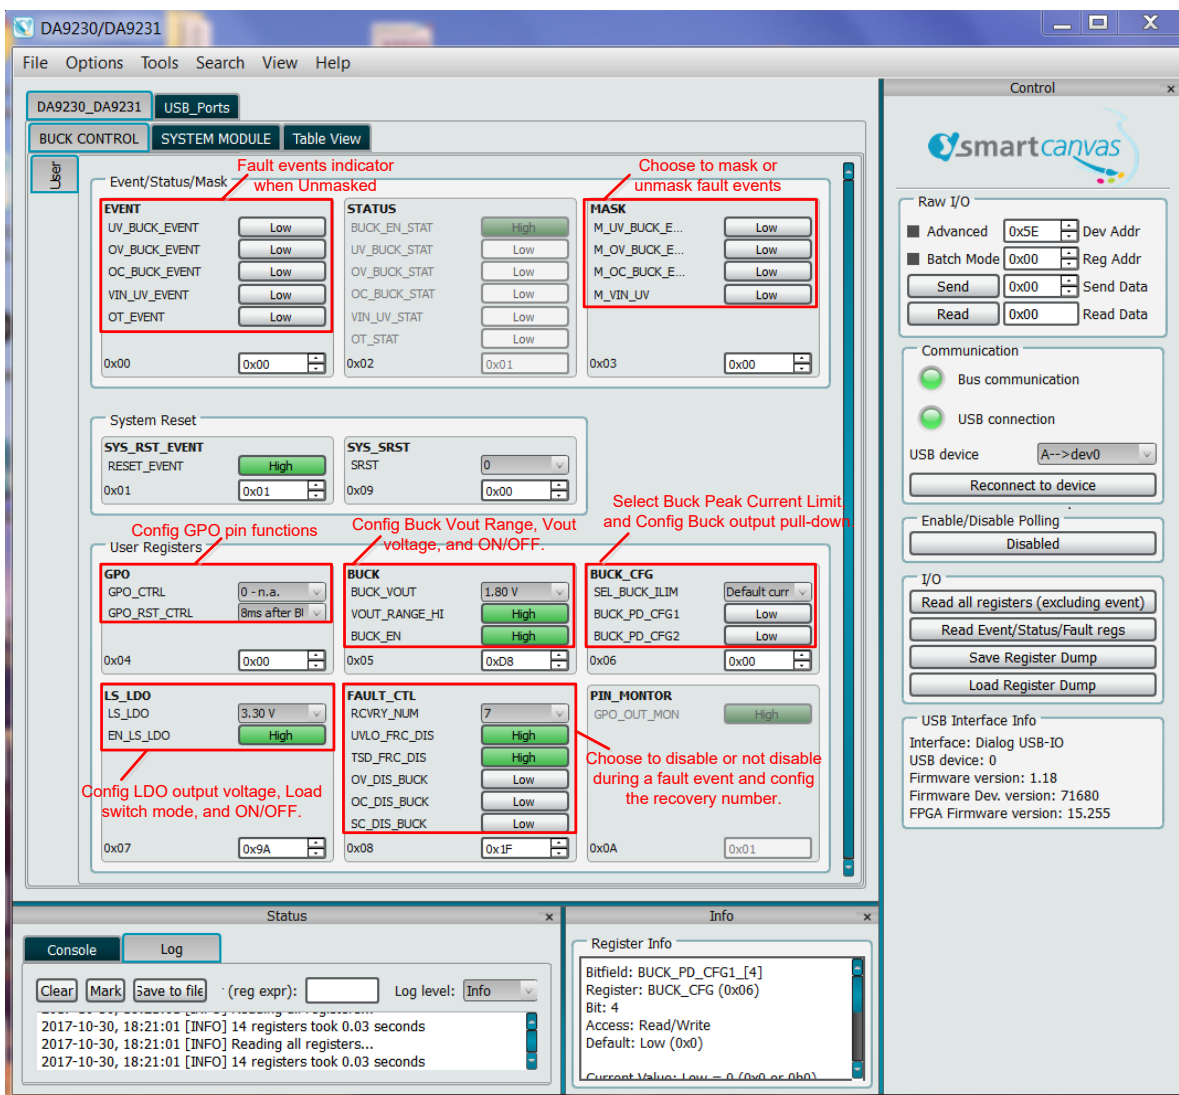

Figure 10: DA9231 GUI Control Page
1. Open DA9230/DA9231 GUI and go to BUCK CONTROL page, see Figure 10.